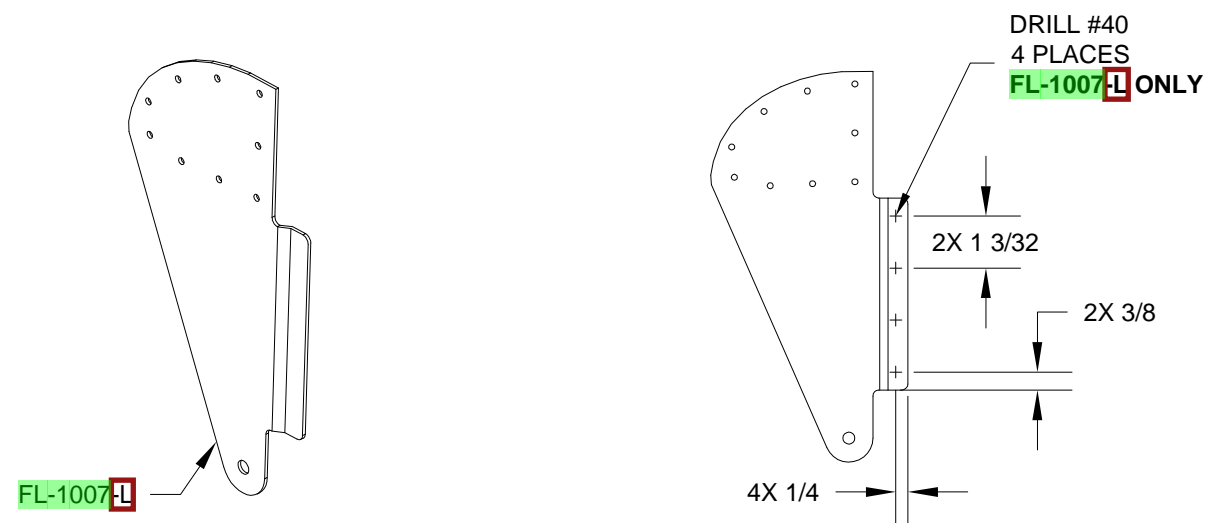

FIGURE 3: DRILL LEFT HINGE BRACKETS ONLY
Step 3: Layout and drill #40 the joggled portion of the three **FL-1007-L** Hinge Brackets as shown in Figure 3.